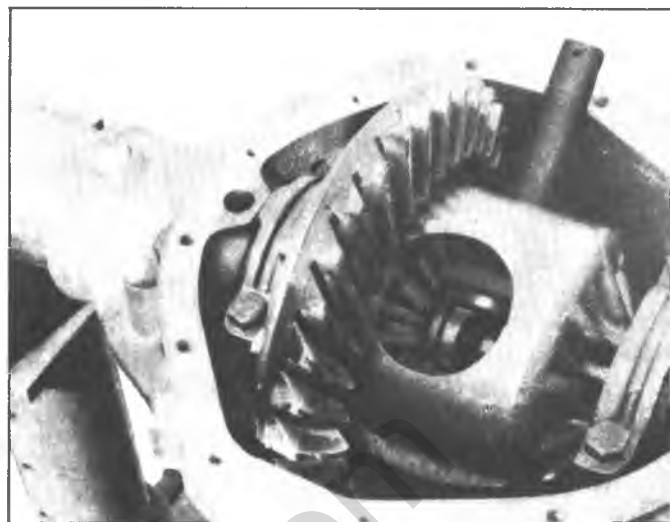

Fig. 12—Push Axle Shaft Inward
6. When the C-lock is positioned to pass through the end of the thrust block, push the axle shaft inward as shown in figure 12, and remove the C-lock. Remove the axle shaft and repeat steps 5 and 6 for the opposite axle shaft.